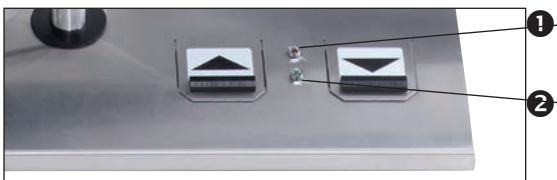

Fig. 6
- Move the chair upwards until the green LED illuminates (❶, fig 6).
- Move the chair downwards until the red LED illuminates (❸, fig 6).
LEDs (fig. 6)